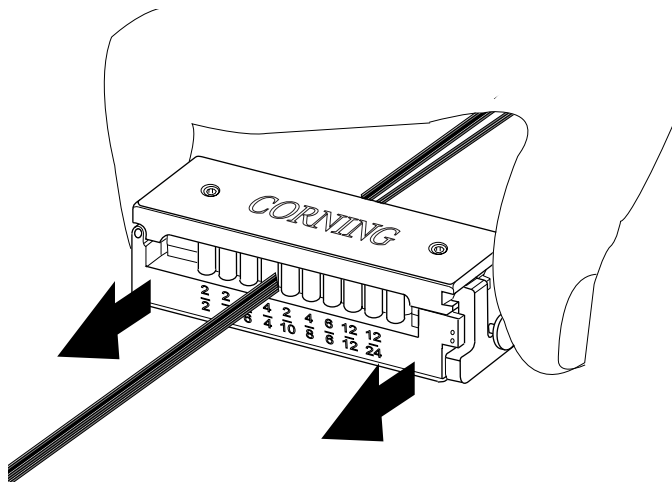

Figure 29
- Use scissors to carefully cut the tape at the buffer tube ends, making sure not to cut any ribbons (Figure 29).
6.17 If appropriate for your installation, divide the ribbon(s) using the Ribbon Splitting Tool (RST-000) (Figure 29).